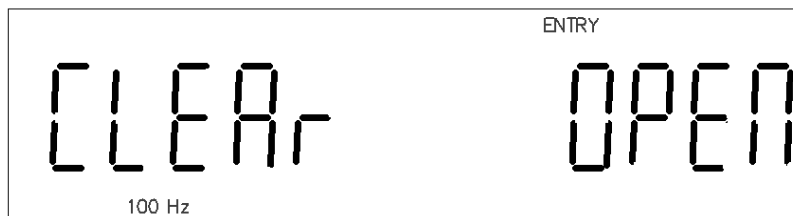

Figure 3-2 Open Correction
3. If the fixture is open, the information shown in Figure 3-2 will be displayed. **ENTRY** is lighted, which means the instrument is under the input status. Input key functions of **[ESC]**, **[ENTER]**, **[◀]**, **[▶]**, **[▼]**, **[▲]** are enabled.